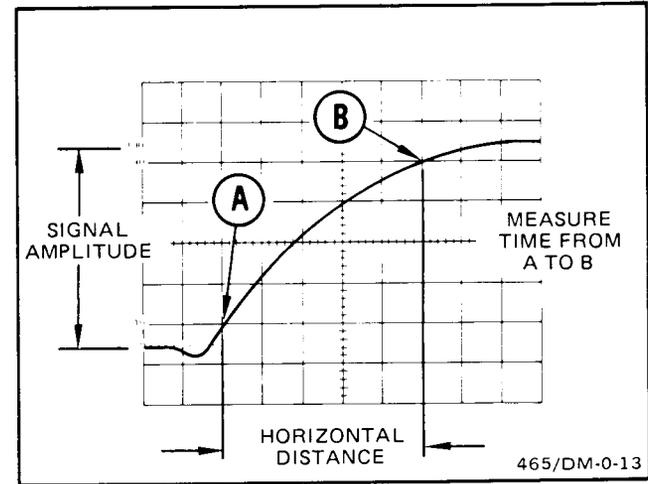

Figure 38. Rise time.
6. Horizontally position the display so the 10% point on the waveform intersects the second vertical graticule line (see Figure 38).
EXAMPLE: The horizontal distance between the 10% and 90% points is 5 divisions (see Figure 38), and the TIME/DIV switch is set to 1  $\mu\text{s}$ . A magnification factor of 1 is used.